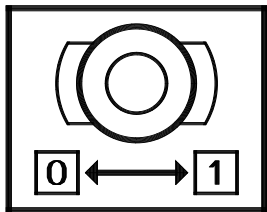
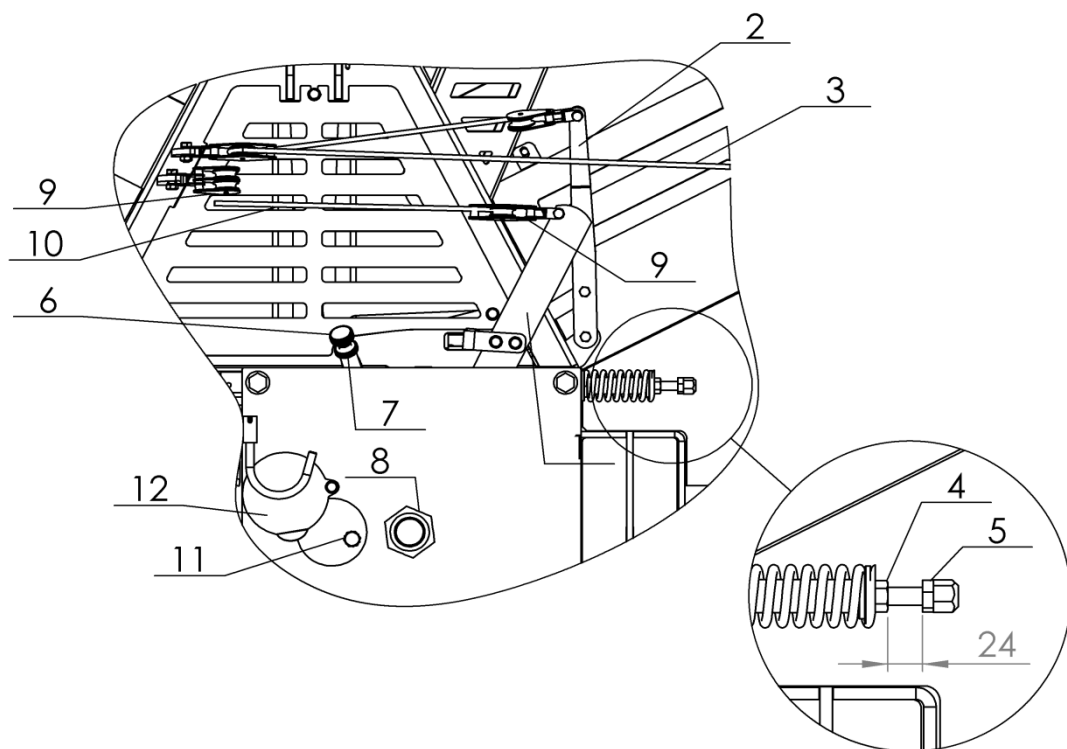
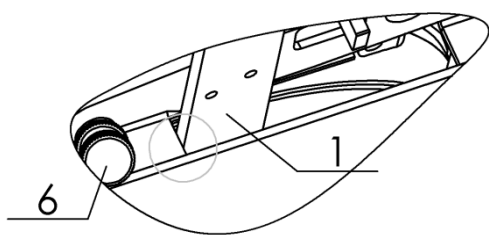

Figure 10
Figure 11
Figure 11a (lever rest)
Once the winch is properly connected to the tractor, you can start unreeling the wire rope. Pull the wooden lever on a red string (pos. 3, figure 11) and thus move lever 2 to the OFF position (figure 11). The brake is released and the wire rope can be unreeled. In case you have just installed the wire rope on the drum or you have noticed that the wire rope is not installed properly, you should unreel the entire wire rope and then reel it back tightly, as described in the beginning of this chapter.
Before you pull the black string (pos. 10, figure 11), check that the string is installed properly between the small pulleys (pos. 9, figure 11). The lever (pos. 1, figure 11) should return to its original OFF position as soon as you stop pulling the string (pos. 10, figure 11).
Any interference with the activation mechanism which would prevent synchronous operation of clutch and brake is prohibited. It is also forbidden to pull the red brake string (pos. 3, figure 11) during the towing.
Once you have installed the dynamometer (spring balance), pull the string with a force of 350 N (35 kg) and check the position of the lever (pos. 1, figure 11). This lever can be seen in figure 11a. Use the nut on the main shaft (pos. 8, figure 11) to regulate the position of the lever (pos. 1), until the lever is not touching the backrest.
In case you tightened the nut too hard (pos. 8, figure 11) and the lever moved away from the backrest, the necessary axial force on the friction surface of the clutch has been reduced too much.
Use a screw (pos. 6) and a lock nut (pos. 7, figure 11) to set the safety brake. First loosen the lock nut and regulate the screw (pos. 6). By turning the screw clockwise, you increase the brake force and by turning the screw anti-clockwise, you decrease the brake force. Then tighten the lock nut which prevents the screw from becoming loose. A proper setting means that the wire rope will not unreel from the drum automatically or too easily. This can lead to wire rope damage when you release the brake and start unreeling the wire rope. The safety brake is set properly when the wire rope can be unreeld without too much effort. In case you are pulling the rope up a slope, it is possible to additionally relieve the brake so that the pulling of the rope is easier. But after you finish the work, the safety brake must be returned to its original position (as describe above).
The brake is set via a nut (pos. 5, figure 11). The brake lever (pos. 2) must be in the ON position (figure 10). First use a wrench key to loosen the nut (pos. 4), then turn the nut with a wrench key(pos. 5) to the left to tighten the brake belt. Turn the nut to the right to loosen the brake belt. For optimal operation the gap between the nuts must be 24 mm. If the brake force is not sufficient, repeat the procedure and tighten the nut (pos. 5) to the left. At the end, tighten the nut (pos. 4) to an appropriate gap. If the set braking force is too high, the unreeling of the rope is more difficult. In such cases, turn the nut to the right.
First, remove the triangular protective net on the winch column. Then rotate the cover (pos. 12, figure 11) and rotate the drum in a position, which enables unscrewing of the bolt (pos. 11) on the drum. Insert the wire rope in the guide of the upper pulley and direct it through the upper pulley to the rope drum. Insert the rope in the groove and tighten the bolt (pos. 11, figure 11). Then start to wind according to the procedure, which applies to towing. Once the entire length of the wire rope is wound, unwind it again and wind it again strongly according to the procedure, which is described in the chapter "Wire rope unwinding" to prevent damage to the rope.